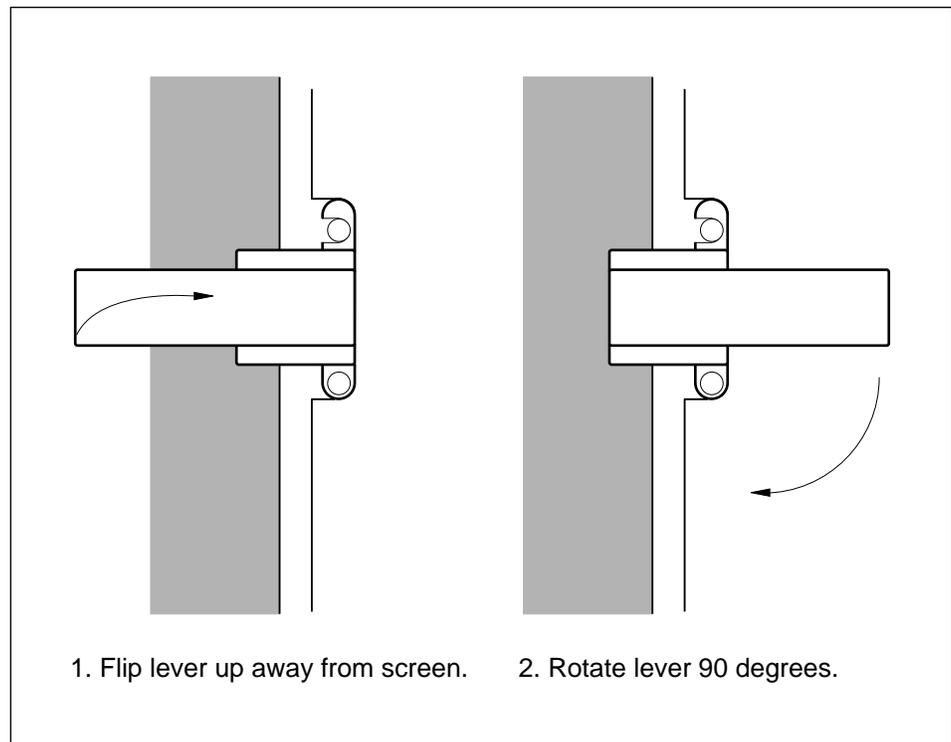

Figure 3-2. Opening the exposure cassette.
1. Flip up the lever on the cassette (figure 3-2).